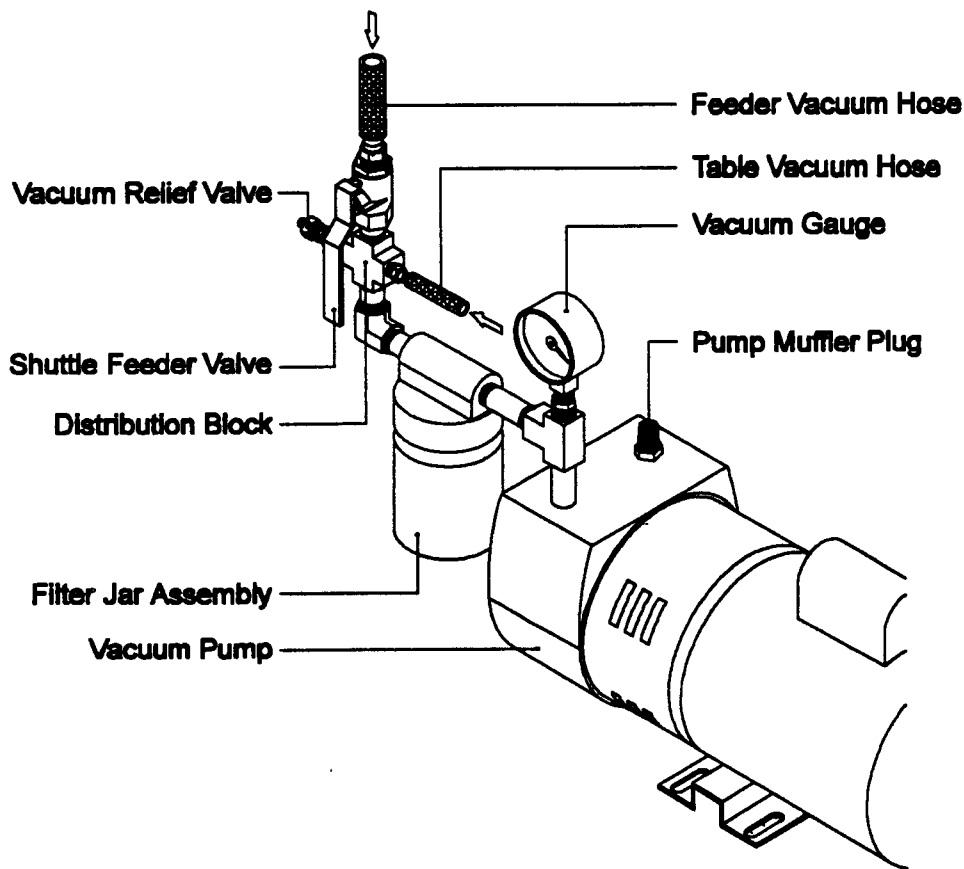

Figure 2.9 - Vacuum Pump System illustrating relief valve, shuttle feeder valve, filter jar assembly, vacuum gauge and hose locations.
The vacuum system consists of an On/Off Vacuum circuit breaker switch; a vacuum pump; a vacuum distribution block featuring a relief valve and vacuum gauge; and two hoses which lead to the vacuum table and feeder vacuum plate respectively. The larger diameter hose leading to the feeder station is equipped with a shutoff valve in order to regulate the vacuum for light mailpieces (See figure 2.9).
☛ To Set Vacuum Level (25 In.Hg) (See Fig. 2.9)
Peak feeder performance is achieved when the vacuum level is set to its maximum which is in the 20 - 25 In.Hg range. Adjustment is made via the vacuum relief valve situated on the distribution block (*See Figure 2.9*).
2. Close the shutoff valve (*See fig. 2.9*) by rotating it fully clockwise so that the valve handle points to the right (towards vacuum pump).